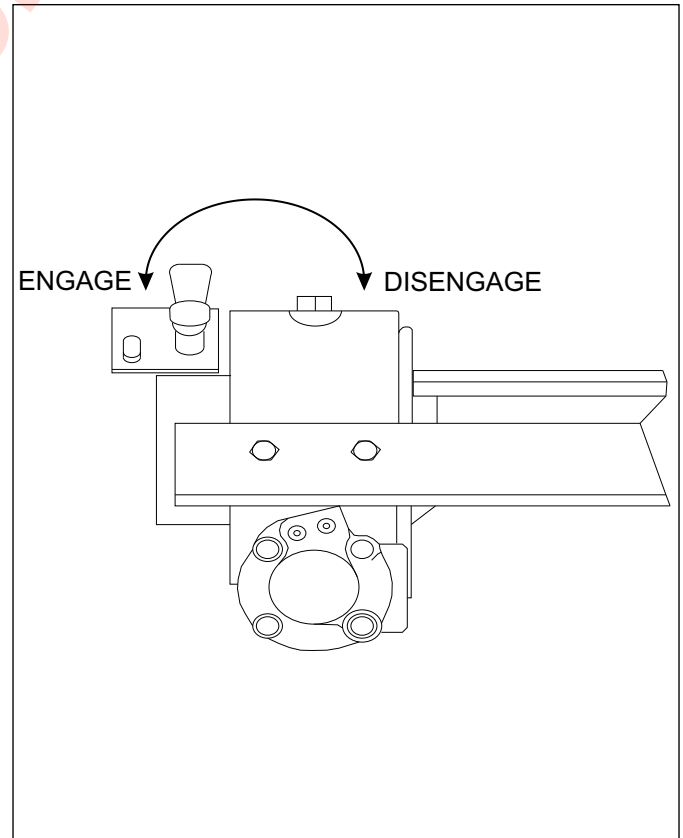

Figure 3-14: 20,000 Lb. Winch Clutch
2. To use the front extension as an extension, remove the front-most pin from the bracket. Lower the extension to a horizontal position. Replace the front-most pin in its new position. To use the extension as a bulkhead, simply return the extension to its original position (**See Figure 3-14.**)